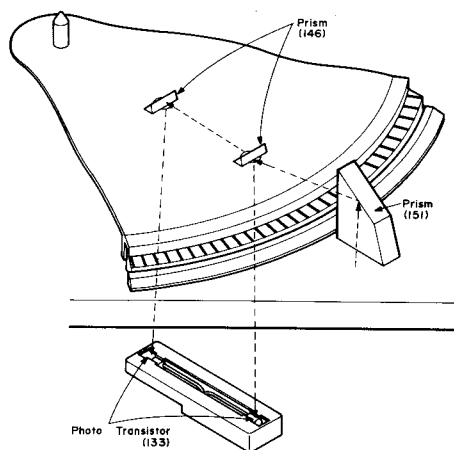

Figure 44-2
6.3 RECORD SIZE DETECT CIRCUIT (Refer to Figure 44-2)